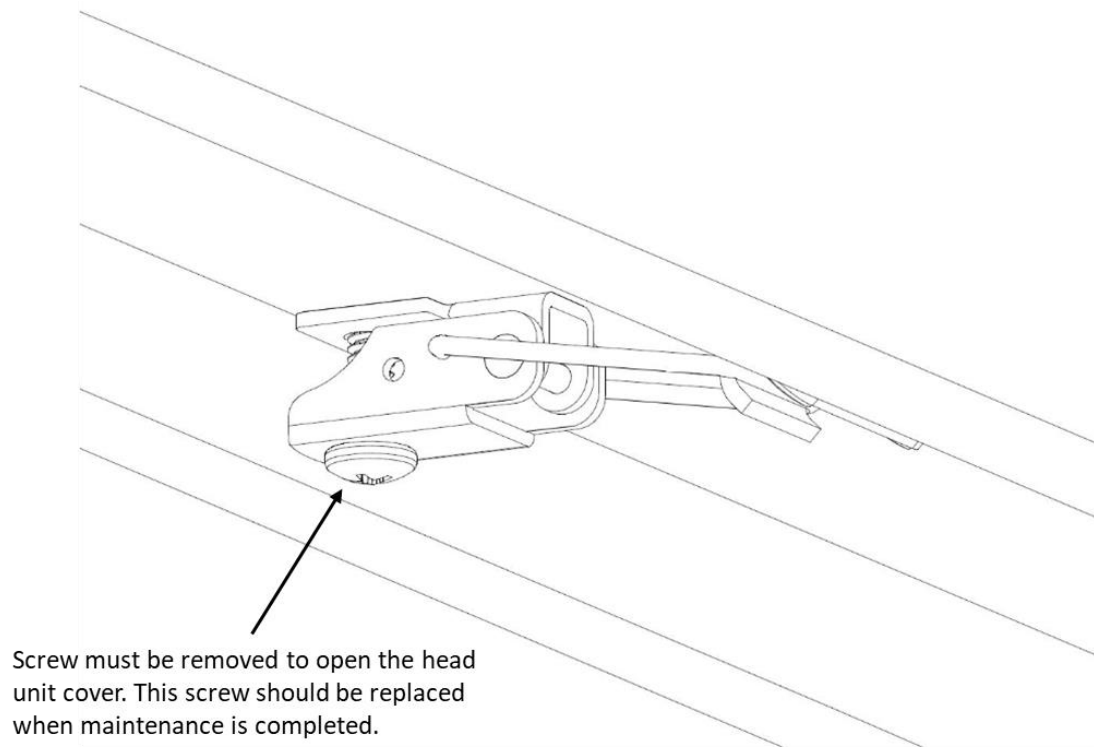

Figure 4: Latch Securing Screw
1. Remove the cover from the head unit by unlatching the two latches at the bottom of the cover and rotating the cover upward. One of the latches will have a phillips head screw in the bottom of the latch. This screw will be required to be replaced when the door is fully installed and the cover is closed. Refer to Figure 4 for screw placement in the latch. With the cover rotated slightly, push up and the two hinge plates will be lifted out of the alignment slots at the top of the head unit. Once the cover is removed, place it to the side until the door is installed.